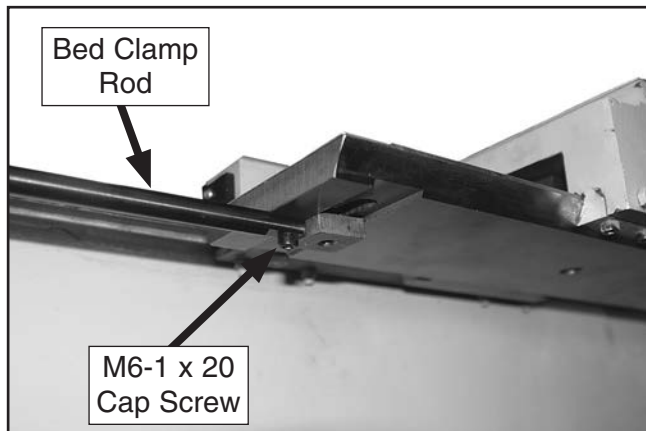

Figure 22. Bed clamp rod attached to slide table.
36. Attach the flattened end of the bed clamp rod to the underside of the slide table, as shown in **Figure 22**, with (1) M6-1 x 20 cap screw.